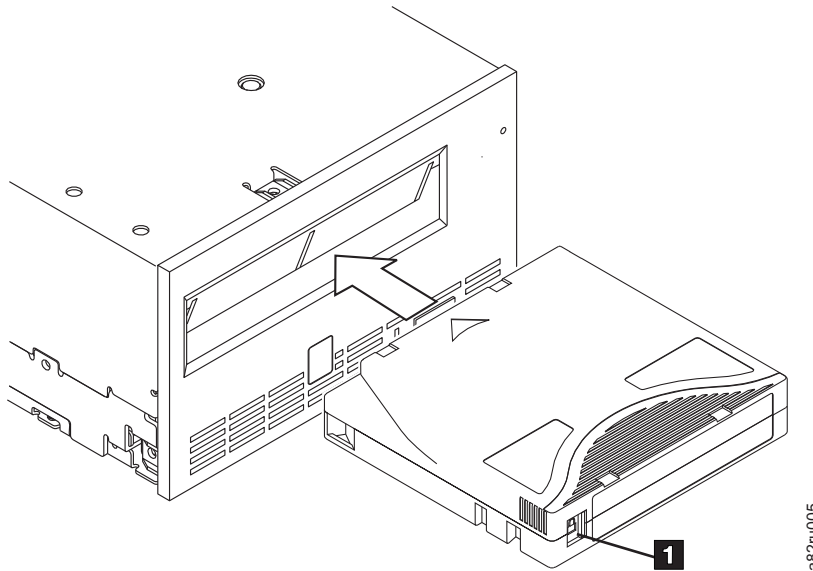

Figure 3-1. Inserting a cartridge into the drive
3. Grasp the cartridge so that the write-protect switch faces you (see **1** in Figure 3-1 on page 3-5).